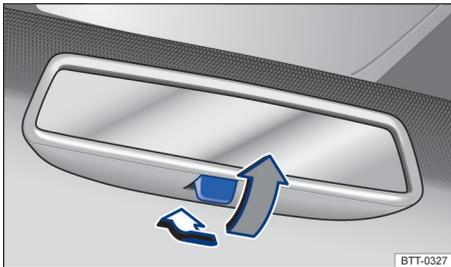

Fig. 80 On the windscreen: manual anti-dazzle interior mirror.
- Night position: pull the lever → Fig. 80 (grey arrow), to avoid glare from the headlights of vehicles travelling behind.